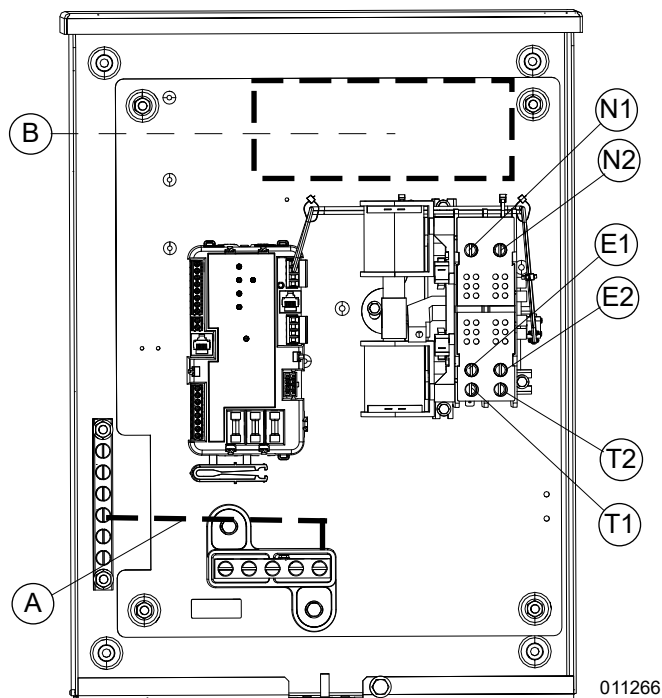

Figure 3-3. Wiring Connections 100 A Unit
NOTE: Service entrance rated model will have a service disconnect in area (B) of Figure 3-3.